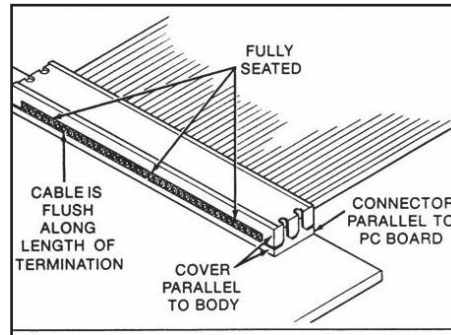

Figure 3
- 2.9 Visually inspect to ensure that : (Figure 3)